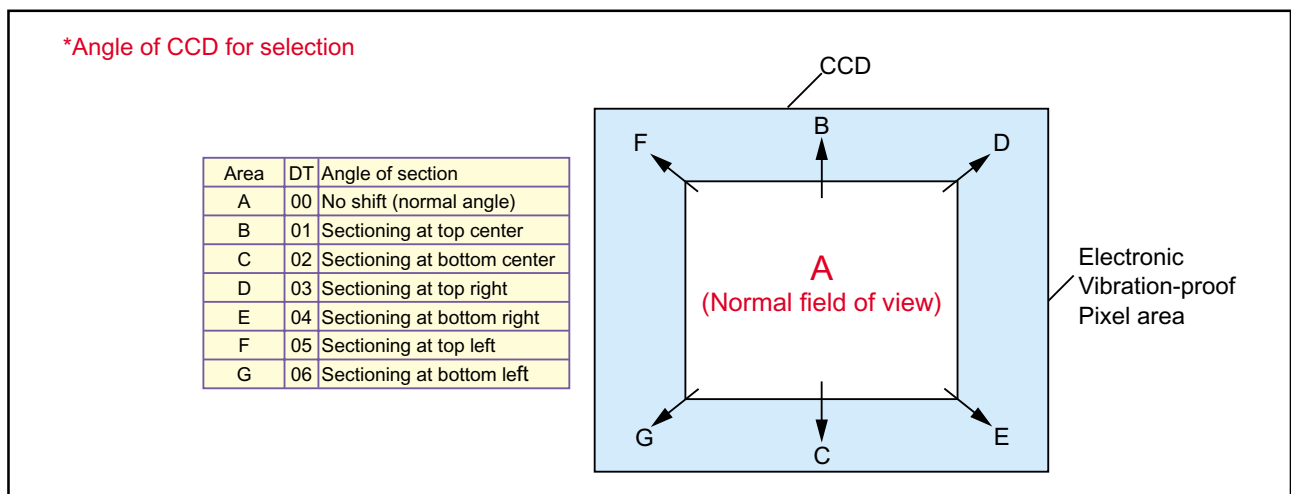

Fig. 4-22
- 2) As shown in the Fig.4-22, the pixel missing compensation over entire CCD area cannot be performed on a single screen due to the electronic vibration- proof area. Therefore, before the adjustment, change the data of the STEP 3 to select the area for compensation.